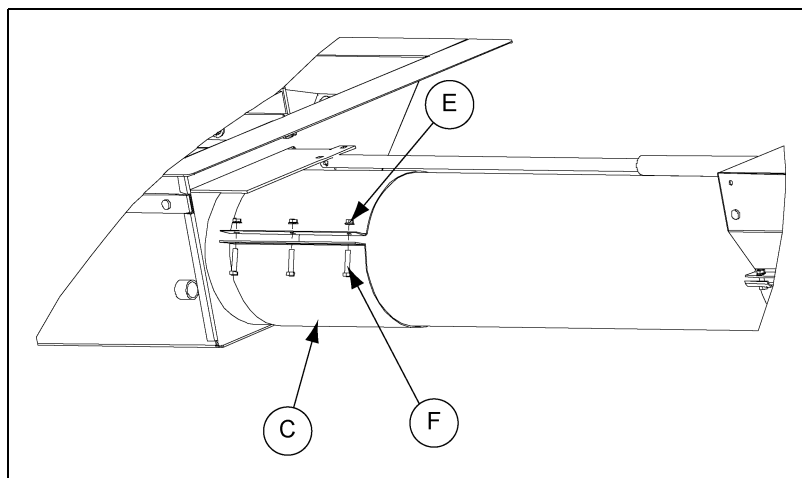

Figure 4H
6. Slide the connecting band (C) until it is equally positioned over both the unload tube and the centerwell tube. Position the connecting band (C) so that it will not interfere with the control rods.
7. Secure the connecting band (C) with three (3) 5/16" x 1-1/2" hex bolts (F) and serrated flange nuts (E), making sure the intermediate wells are level with the centerwell. (See Figure 4H.)